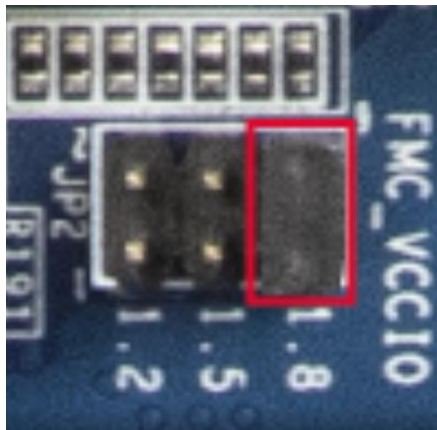

Figure 4-10 Select 1.8V on JP2 VCCIO_FMC VAR
4. Make sure the FMC_VCCIO switch **JP2** of the HAN is set to 1.8V as shown in Figure 4-10.